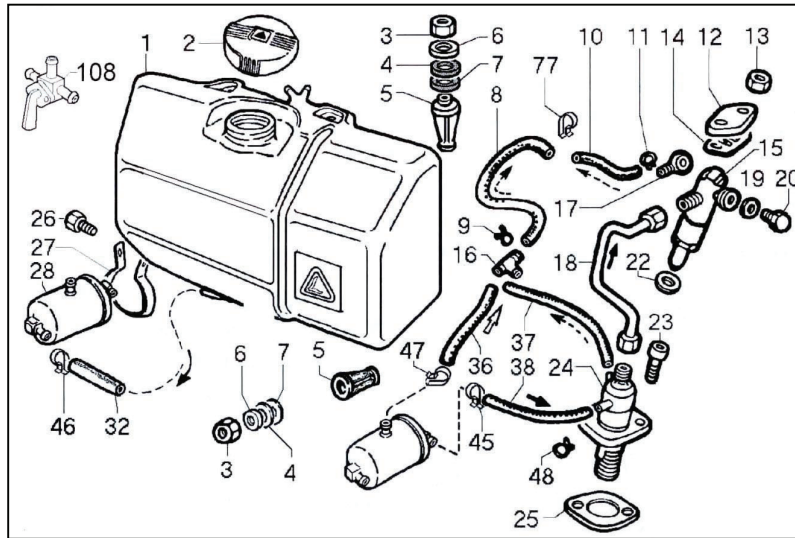

Figure 16
8.5.3 Injector (figure 16, #15)
1. Loosen the rigid steel fuel line (figure 16, #18) from the injector pump (figure 16, #24) to the injector (figure 16, #15) and move out of way.
2. Loosen two nuts (figure 16, #13) and remove injector cover plate (figure 16, #12) and cover plate gasket (figure 16, #14). Remove the injector by pulling up until it is clear of the engine.
3. Make sure that the injector nozzle, the part of the injector that sits in the cylinder, is clear of debris and carbon residue. Clean off the carbon residue with emery cloth. If the injector (figure 16, #15) is clogged, it will need to be replaced.